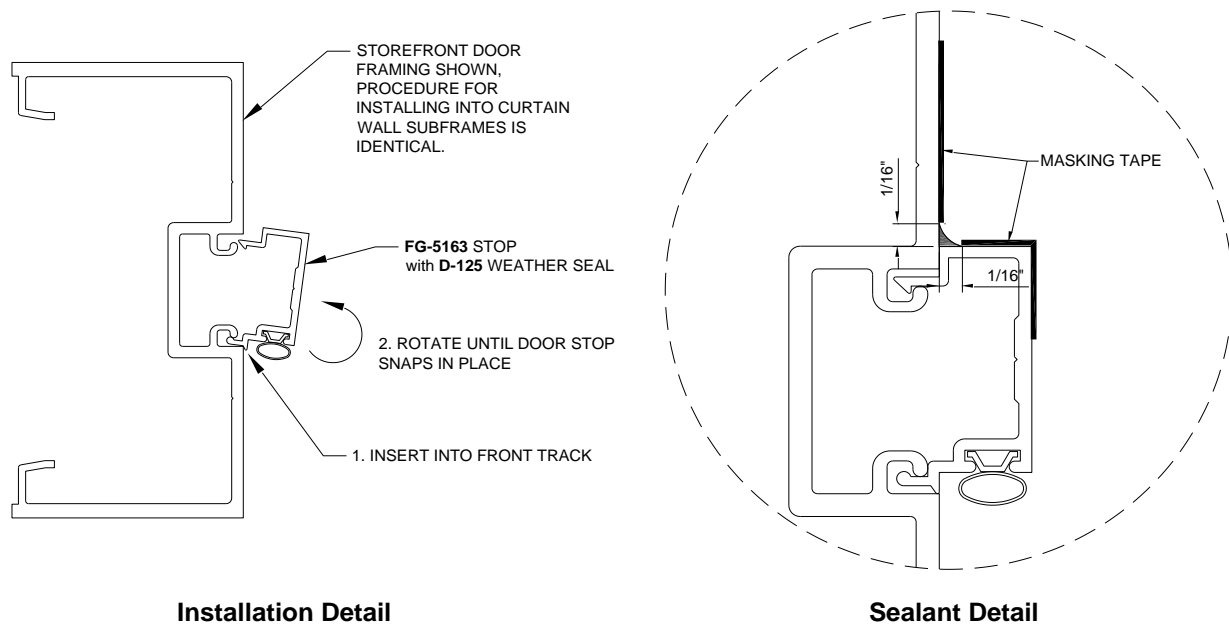

Figure 27: FG-5163 Door Stop Installation and Sealant
- 10.1.4 Mask off Door Stop and Door Jamb with 1" wide (minimum) low-adhesion masking tape. Reference Figure 27 for masking tape application location.
- 10.2.6 Mask off Door Stop and Door Jamb with 1" wide (minimum) low-adhesion masking tape. Reference Figure 27 for masking tape application location.